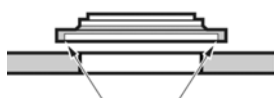

Fig. 1 Mounting Plate
3. After plumbing and wiring (if necessary) apply water resistant silicone sealant around the edges of the mounting plate (see Fig.1).